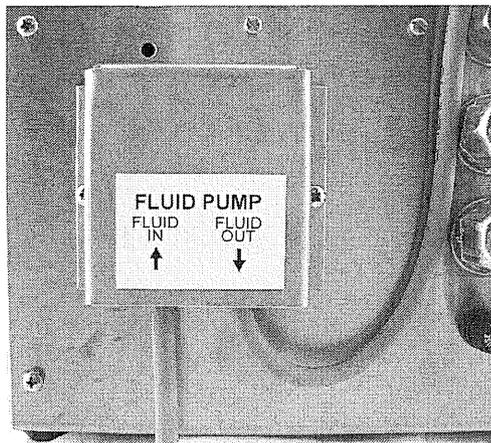

Figure 2
- 3) Connect supplied hose to pump inlet. (See Figure 2, Pg. 9)
- 4) Connect supplied hose to pump inlet. (See Figure 2, Pg. 9)